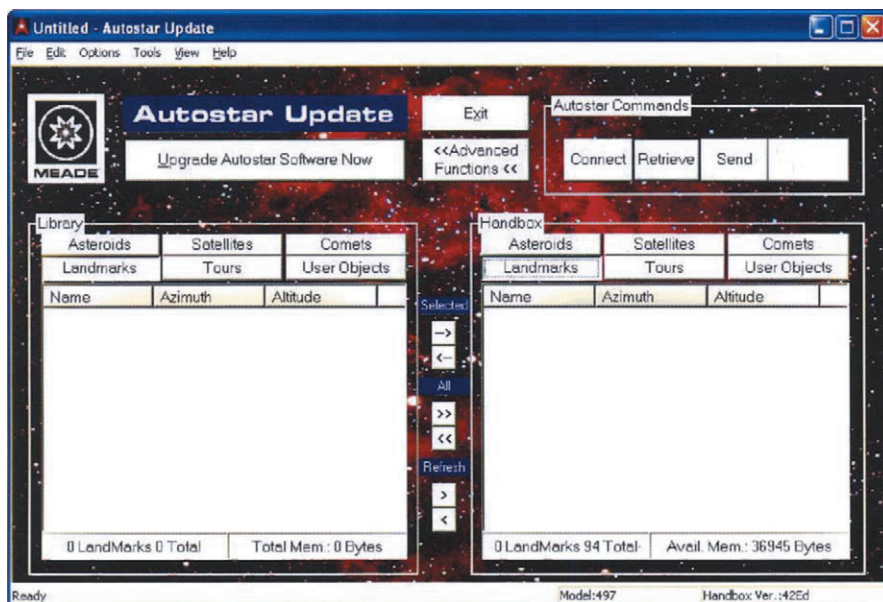

Figure 9.4. Autostar update utility.
3. Start up the ASU program on the computer. You will see a screen like the one shown in Figure 9.4.